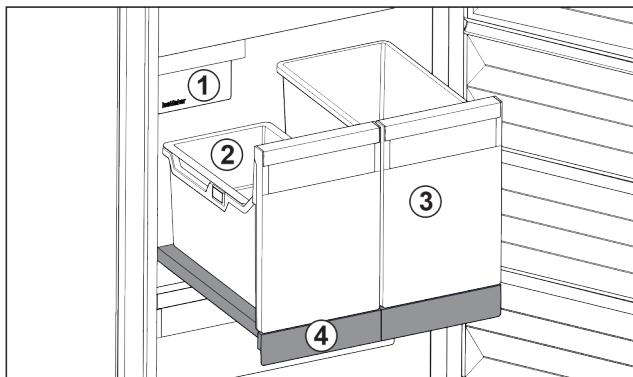

Fig. 99 Pull-out board with IceTower
- (1) IceMaker
- (2) Hang-on tray for ice cubes
- (3) Container for pizza or alcoholic beverages, for example
- (4) Pull-out board
There are two high (IceTower) containers on the pull-out board. Ice cubes from the IceMaker are collected and stored in the Fig. 99 (2) container. The container Fig. 99 (3) is suitable for storing tall foodstuffs or beverages such as pizzas or alcoholic drinks.